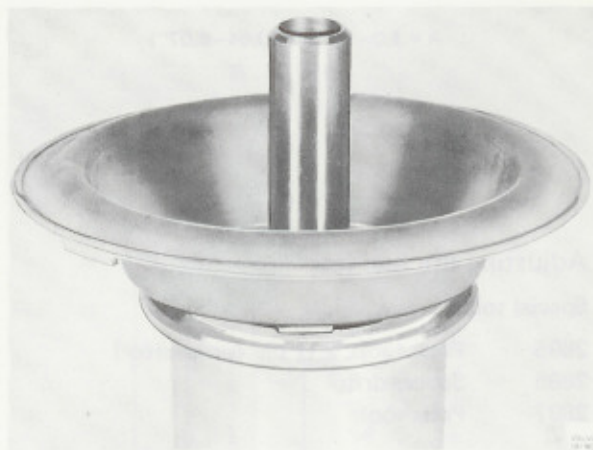

Fig. 23-24. Diaphragm in air valve
3. Install the new diaphragm, Fig. 23-24. The rubber register should fit into the valve groove.